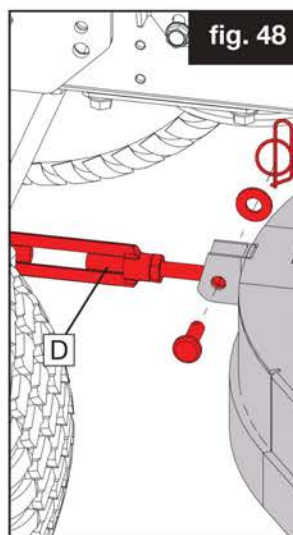

fig. 48
2. De-tension the Cutter Drive Belt by removing the tension rod from the front of the deck (fig. 48 - D). See tensioner setup section for rod installation guidance.